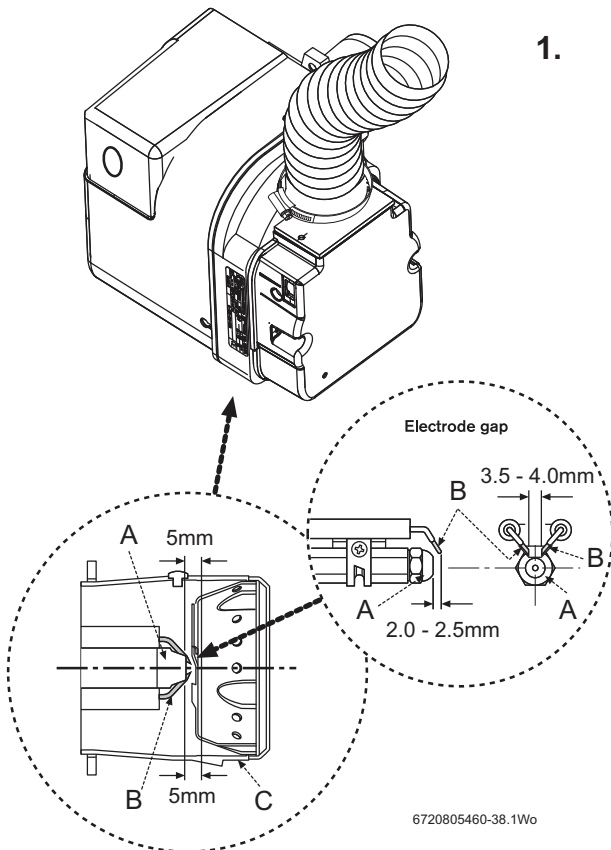
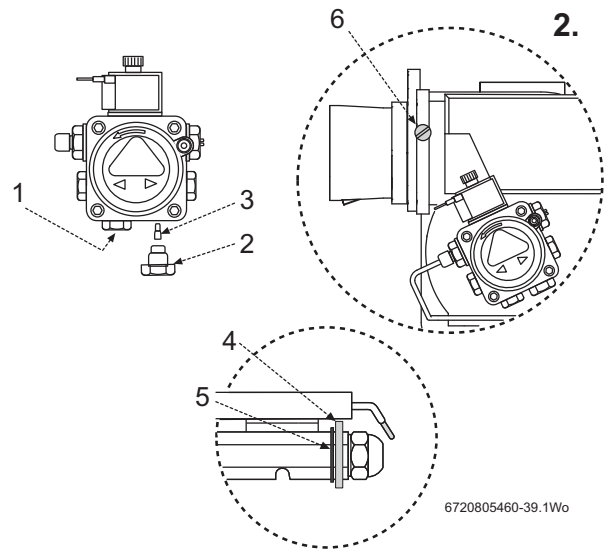

Fig. 49 Nozzle and electrode alignment
Fig. 50
1. Check that the nozzle (A) and the electrode (B) alignment settings are correct as shown in figure 49.
- ▶ Ensure that the nozzle (A) is aligned centrally within the combustion head (C).
- ▶ Before removing or fitting a nozzle (A), loosen screw (6 figure 50) and move the electrodes (B) forward. After refitting check that the electrode gaps are correct, as shown in figure 49.